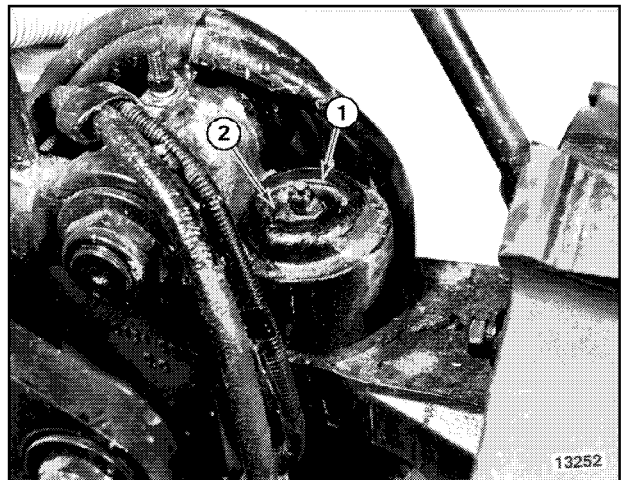

Figure 23
- Remove retaining ring (1, Figure 23) and cover plate (2), from top and bottom of spindle assembly.